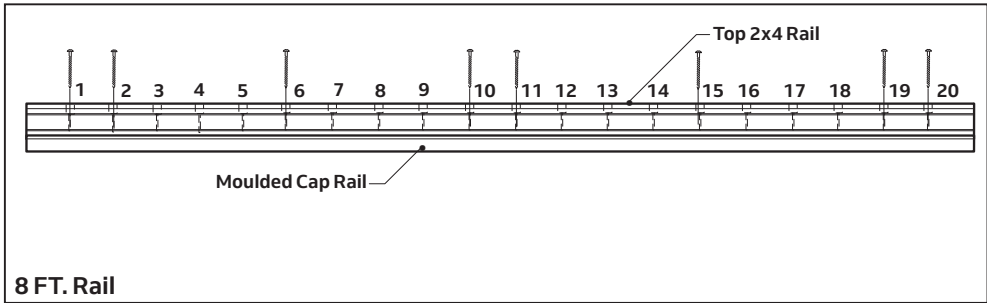

Fig. 2
STEP 1: Place the moulded cap rail upside down on a flat surface. Next, place one of the 2x4 line rails into the moulded cap rail channel so that the holes are facing up. Starting from either end, fasten the top 2x4 to the cap rail using the (7) 3" screws through the holes indicated in **(Fig. 1)** or **(Fig. 2)**. If rails are trimmed, pre-drill any additional holes with a 1/8" drill bit and insert the screw into the next nearest hole.